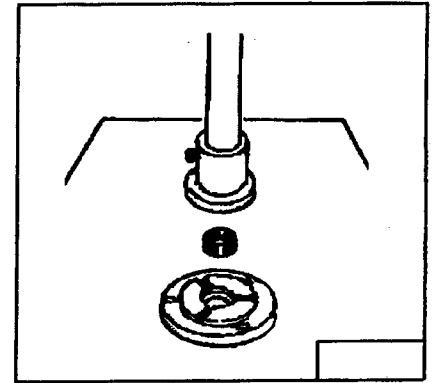

Fig. 4-33 Replace Seal In Pilot Plate
4. Make seal replacement in pilot plate (Fig. 4-33).